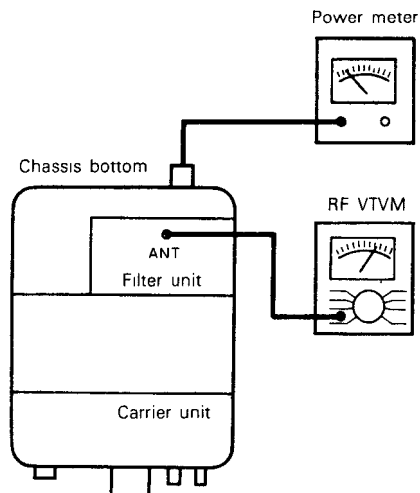

FIG. 11 ADJUSTMENT OF CARRIER SUPPRESSION
- (1) Connect the power meter to the ANT terminal. Connect RF VTVM (0.3V range) to the ANT terminal of the filter unit (Fig. 11).
- (2) Short the MIC terminals "2" and "4" to set into transmitting.